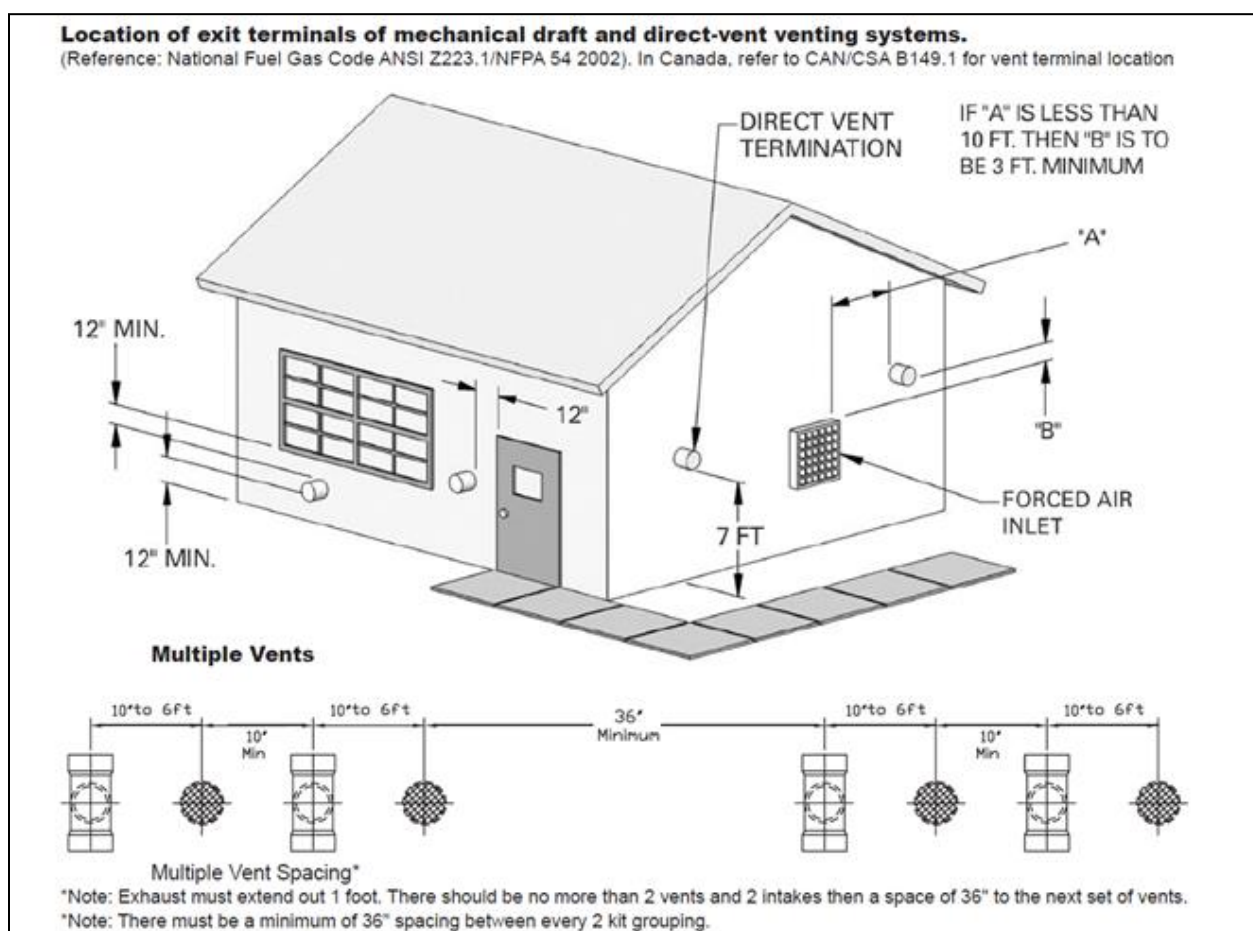

Figure 13
- Follow required minimum clearances located in Figure 13.